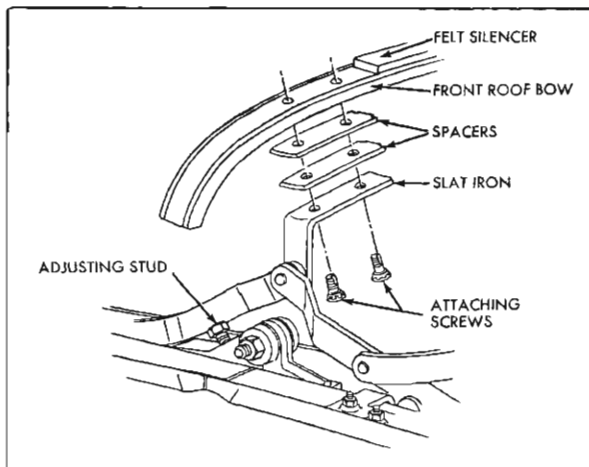

Fig. 21-23 View "B" Fig. 21-21 (Pontiac)
If a difficult locking action, caused by misalignment of the sunshade and striker support assembly is encountered at the front roof rail or if a closer fit of the front roof rail to windshield header is desired, proceed as follows: (Fig. 21-23).
2. Front roof bow felt silencer too high.	Trim silencer to within 1/8" of top of front roof bow (Fig. 21-23). Remove excessive padding.